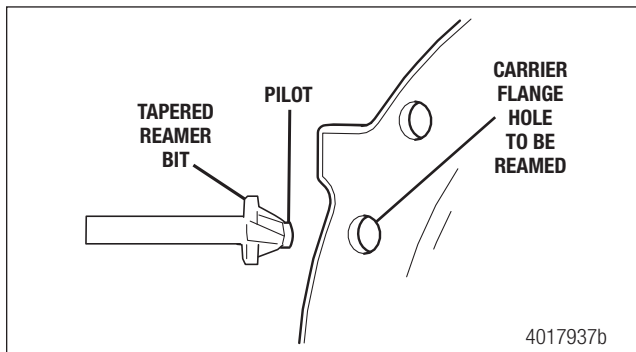
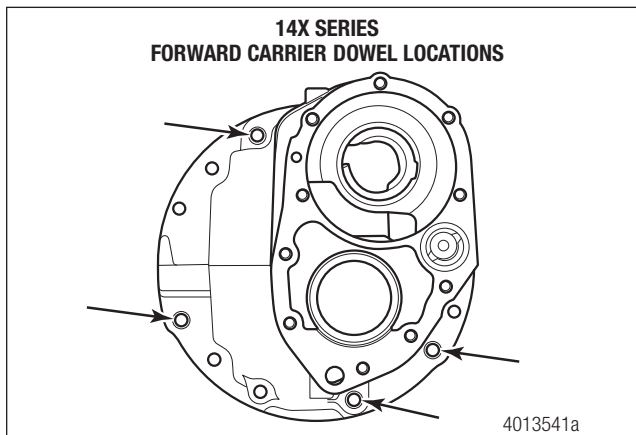
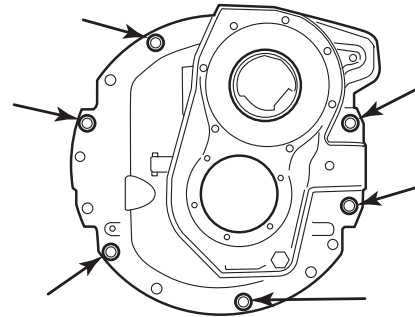
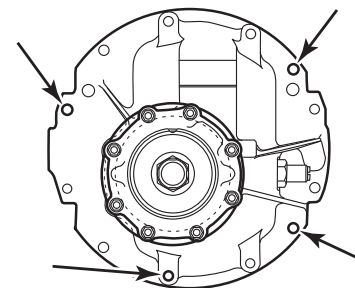

Figure 2
Figure 3
Figure 4
Figure 5
2. Verify that the tapered reamer bit pilot fits in the carrier flange holes. Figure 2, Figure 3, Figure 4 and Figure 5.